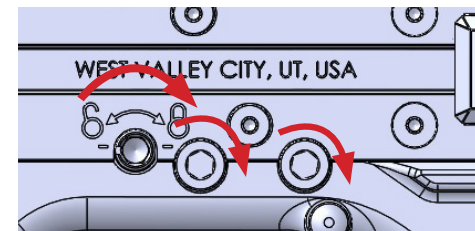

Fig. h-2
- Rotate the rifle to the left side. Using the 5mm hex wrench side of the multi-tool, rotate the barrel lock screw to the "Locked" position, and torque the barrel retention screws to 80 in / lb. (Fig. h-2)